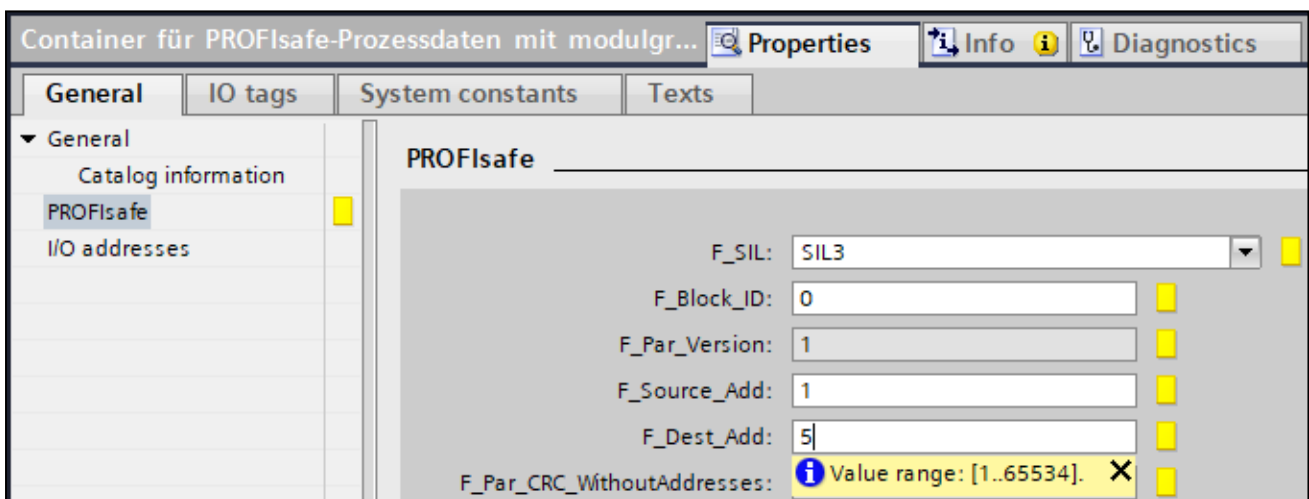

Figure 35: TIA – PROFIsafe-Group » Setting up of PROFIsafe address 'F_Dest_Add'
1. in the *TIA* tool under the properties of the *PROFIsafe group* of the PDP67 device (see Figure 35)
If this is different from the F-address "[5]" configured and transferred by the TIA project (Figure 35 [29]), an automatic procedure is executed at the PASconfig tool.